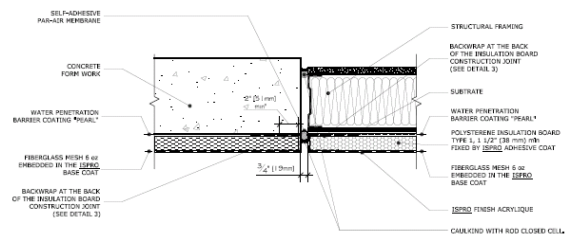

Fig 9. Vertical Construction Joint detail
11.2 When an addition to an existing building, an expansion joints is necessary between new and old buildings. (Fig.9)
11.6 When a change of substrate occurs on a building (Fig 9) wood construction & * ICF Extension)